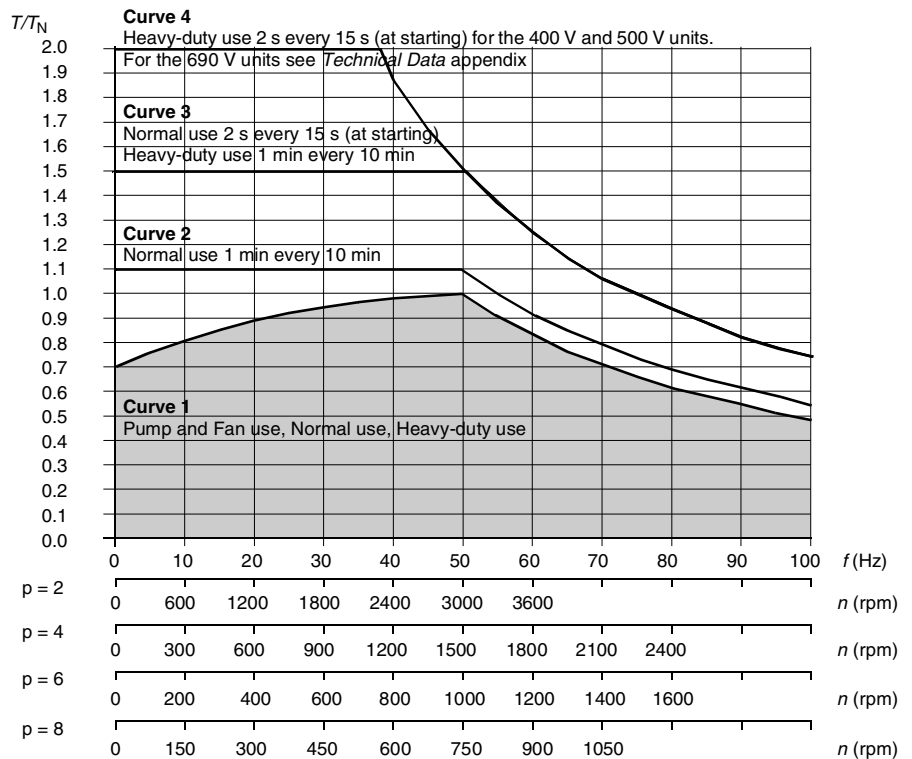

Figure 8-1 Curve 1: Typical continuous load capacity curve of an IEC 34 self-ventilated motor controlled by the ACS 600.
At frequencies above 37.5 Hz, the reduction in the 200 % peak overload capacity (Figure 8-1, Curve 4) is due to the fact that the internal power limit ($1.5 \cdot P_{hd}$) restricts the allowed motor torque.
- The continuous load capacity of the motor controlled by ACS 600 is 89 % at 600 rpm and 80 % at 1900 rpm. See Figure 8-1, Curve 1.
- The peak overload capacity of the motor controlled by ACS 600 is 150 %. See Figure 8-1, Curve 3.
- The peak overload capacity of the motor controlled by ACS 600 is 200 %. See Figure 8-1, Curve 4.
The continuous load capacity of the motor controlled by the ACS 600 is 83 % (Figure 8-1, Curve 1) at 3600 rpm. The required motor torque is $T = 9550 \cdot 69.1 / (3600 \cdot 0.83) = 220.9 \text{ Nm}$ and the required motor power is $P = 3000 \cdot 220.9 / 9550 = 69.4 \text{ kW}$.
- The continuous load capacity of the motor controlled by the ACS 600 is 94 % at 800 rpm. See Figure 8-1, Curve 1.
- The peak overload capacity of the motor controlled by the ACS 600 is 200 % (during the start). See Figure 8-1, Curve 3.
- The short term overload capacity of the ACS 600 is 140 % at 800 rpm during a one minute step. See Figure 8-1, Curve 3.